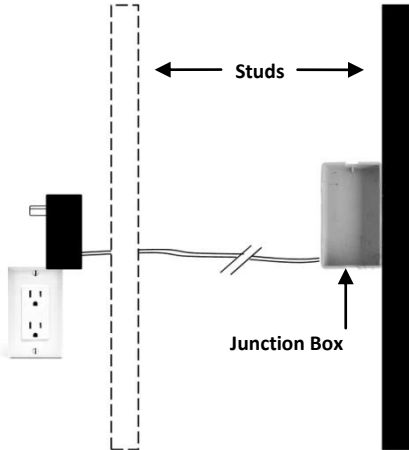

Figure 1. Locating the junction box and running low-voltage wires from the transformer (front view).
1. Run power supply wires from the provided low-voltage transformer to the junction box location. Power supply wires are run behind the wall (see Figure 1).
2. Install junction box according to the manufacturer's instructions (see Figure 1).